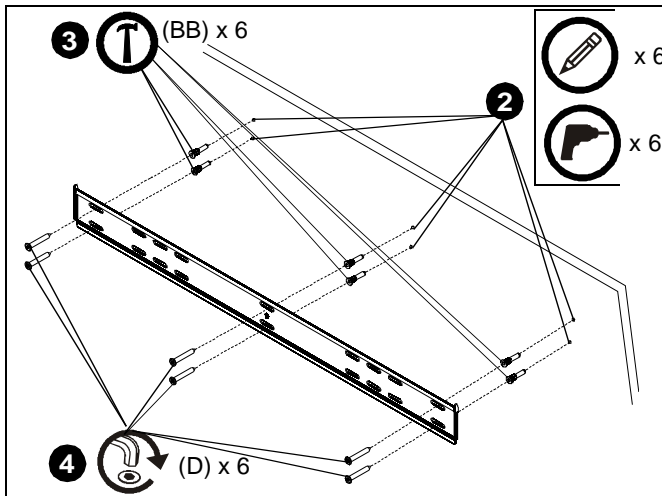

Figure 3
2. Using wall plate as a template, mark and then drill six 5/16" diameter pilot holes through mounting surface. Use level to make sure wall plate is perfectly horizontal. Holes must be drilled at least 2-1/4" deep. (See Figure 3)
3. Install six anchors (BB) into pilot holes drilled in Step 2. Use a hammer to lightly tap anchors into holes. (See Figure 3)
4. Install six connector screws (D) through wall plate holes and into anchors. (See Figure 3)